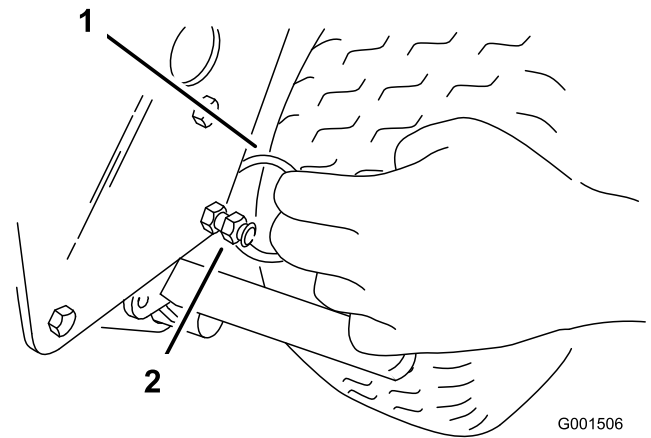

Figure 8
- Grasp the split ring (Figure 8) on the right side of the machine, pull the ring and chain straight out from the side of the machine, and hook the ring over the control-shield bolt.